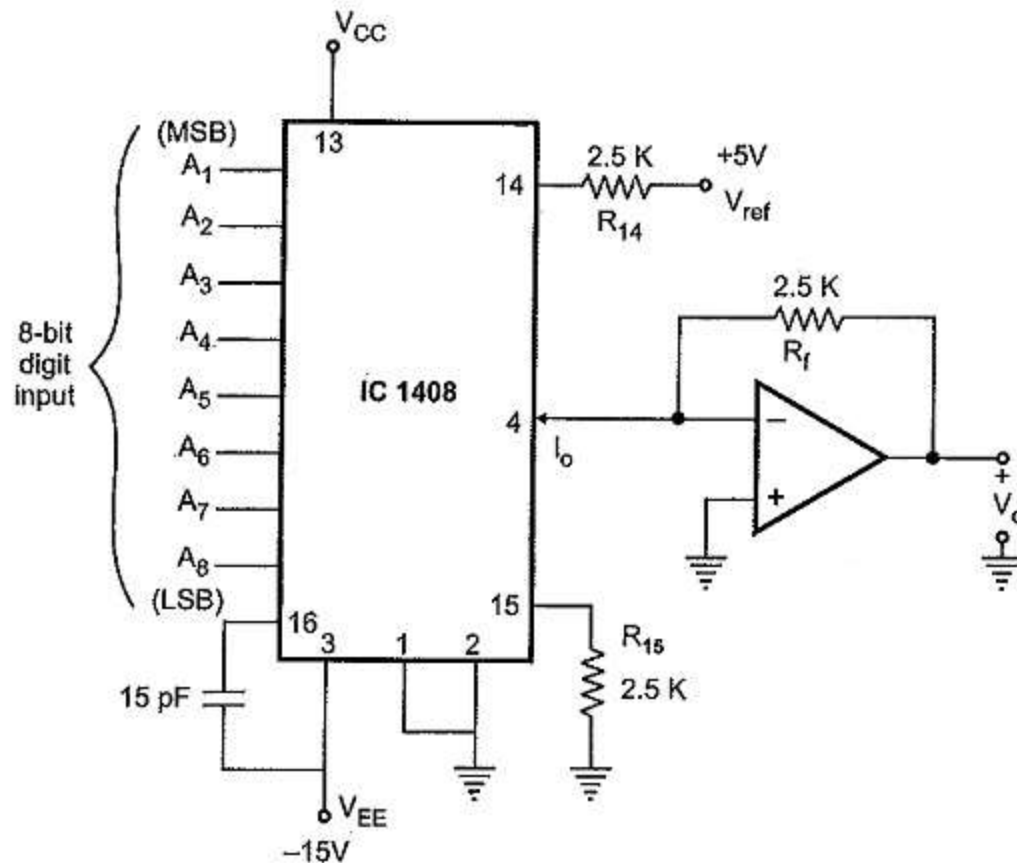

Fig. 14.109 Typical circuit for IC 1408
- Fig. 14.109 shows a typical circuit for IC 1408.